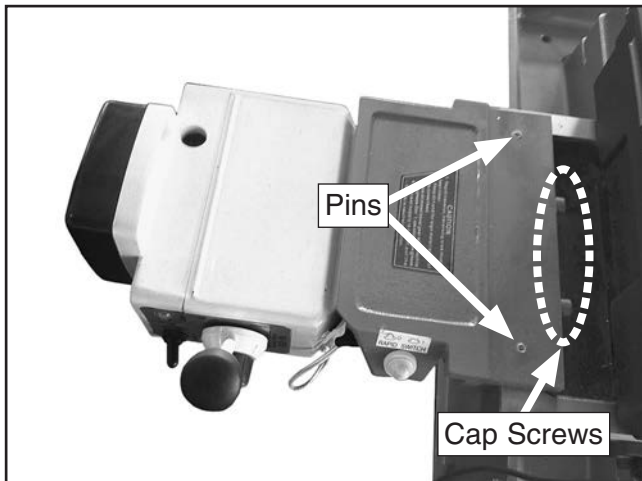

Figure 14. Power feed assembly attached to table.
1. Position power feed assembly on left side of table so that pins shown in **Figure 14** fit into holes on top of table.
2. Secure power feed assembly to table with (2) M8-1.25 x 20 cap screws (see **Figure 14**).